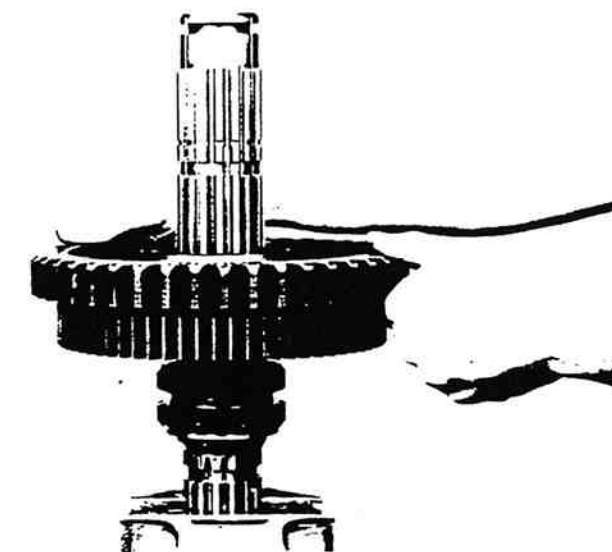

Figure 13-121. 1st Speed Gear Installation.
7. Install 1st speed gear, clutching teeth up (figure 13-121).